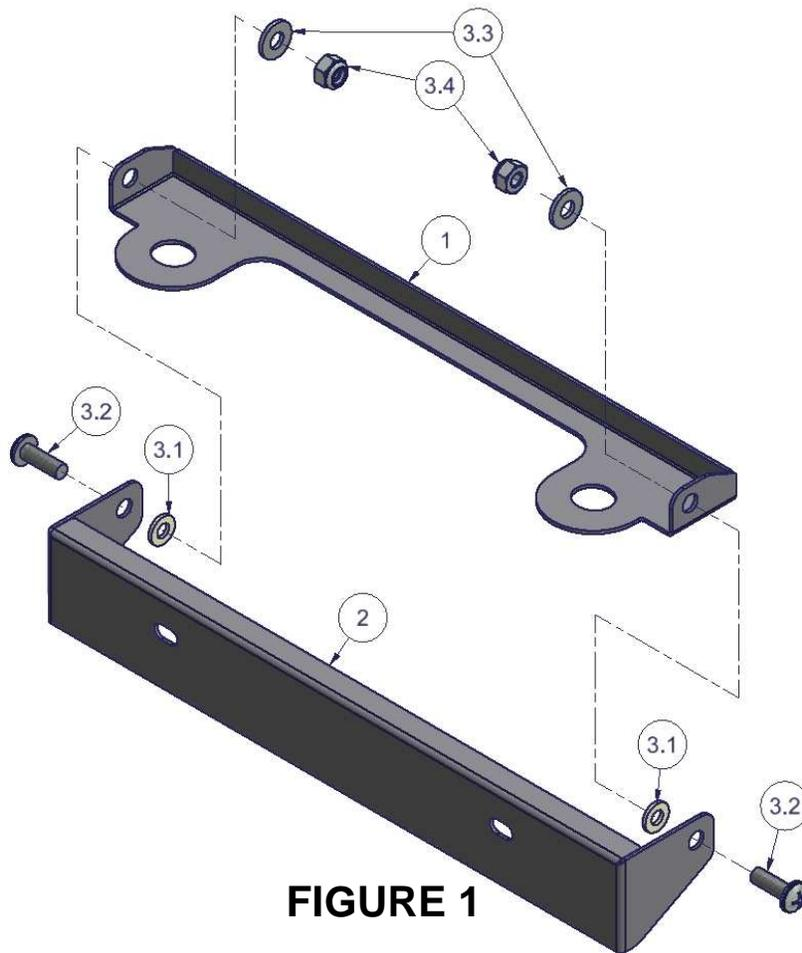

FIGURE 1
1. Assemble the #333 Flip-Up License Plate Holder, as shown in Figure 1 (Reverse Side). The #2 License Plate Bracket fits over the #1 Fairlead Bracket. Slip the #3.1 Nylon Washers between the #1 and #2 Brackets during assembly.